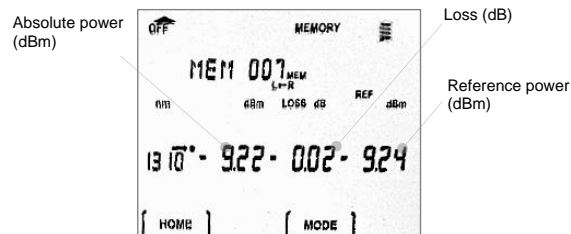

Figure 7. LCD display in Meter mode
- [For data saved in Meter mode only]: As default, absolute power will be displayed in dBm along with loss (dB) and reference power (dBm), see Figure 7 at the end of this section for an LCD display sample. To change to display absolute power in watt also, press **F3**. Press **F3** again will return to default display.